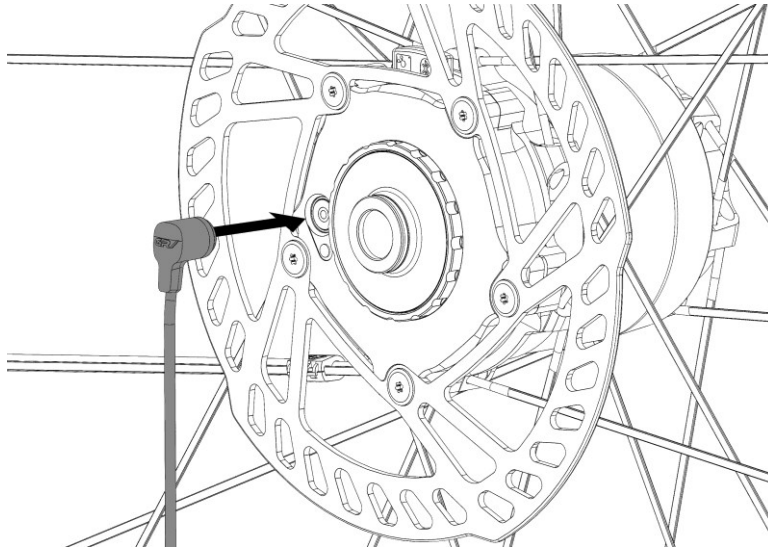

Figure 9: charge the wheels
Both wheels can be charged simultaneously. The batteries can be charged from the side of the hub, using the GRAVAA charging supplies. The charging supplies consist out of a cable with one USB-A end and with two magnetic pogo pin connector. The pogo pins each fit to an interface on the side of each hub flange, as indicated in Figure 9.
2. Spin your wheels such that the pogo pin interface on the hub is visible and easily accessible. See Figure 9.
3. Take the cable and connect the ends with the magnetic pogo pins to the interfaces on the hub. By design, they can only be mounted in 1 way. A magnet will hold the cable in place in case the cable is moved. See Figure 9: charge the wheels.